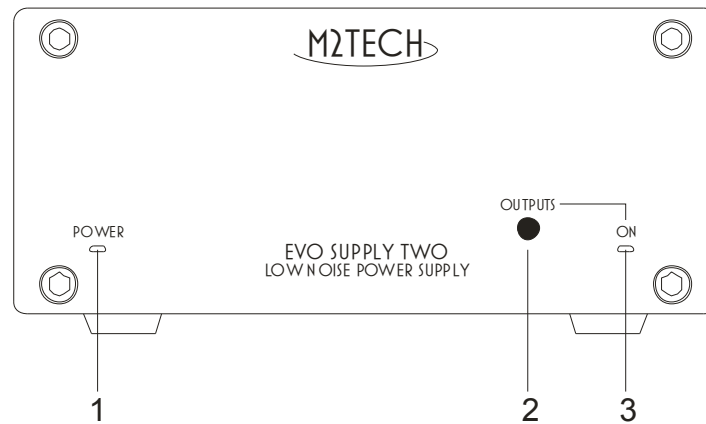
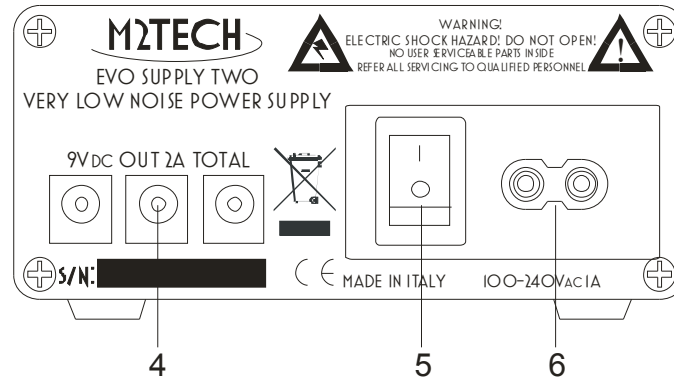

Figure 1
Figure 2
5) Mains switch. Operate this switch to power the EVO SUPPLY TWO. The power on LED (Fig. 1, Page 9) will glow and the EVO SUPPLY TWO will be in standby, ready to activation by a pressure of the output activation button (Fig. 1, Page 9).
Connect up to three units with +9V supply to the EVO SUPPLY TWO outputs (Fig. 2, 4), using the cables provided with the unit, after checking the proper supply voltage for each unit.
Connect the provided power cord to the EVO SUPPLY TWO power cord socket (Fig. 2, 6), as well as to a power outlet.
Operate the real panel mains switch (Fig. 2, 5) to power the EVO SUPPLY TWO on. The power on LED (Fig. 1, 1) will glow. The EVO SUPPLY TWO will then be in standby, with outputs disabled and waiting for operation of the output toggle button by the user.
Push the outputs toggle button (Fig. 1, 2). The outputs will enable and the outputs activation LED (Fig.1, 3) will glow.